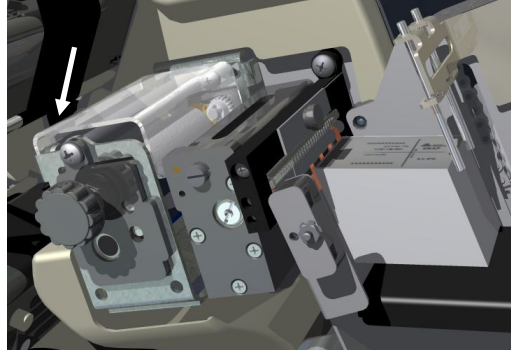

Figure 18a: Lubrication Locations
3. Using a Phillip's head screwdriver, loosen but do not completely remove, the retaining screw on the outboard end of the knife (see Fig. 18a). Leave the
2. Remove the knife assembly from the printer as described in Section 4.4.1. Refer to Figures 18a and 18b.